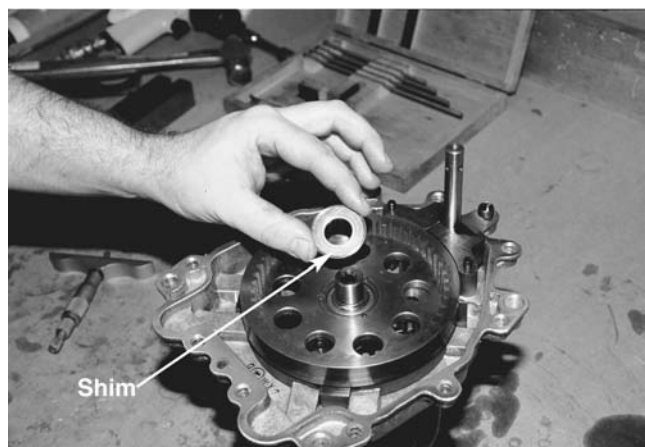

Figure 10-66
26. Shim the axle with hardened washers to achieve five to 20 thousandths clearance. This provides play without binding. See Figure 10-66.